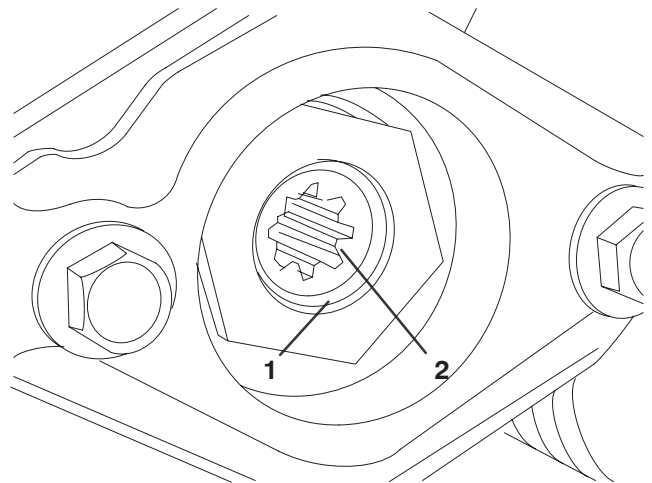

Figure 16
- E. Remove the snap ring securing the drive coupler in the reel tube (Fig. 16). Remove the drive coupler.